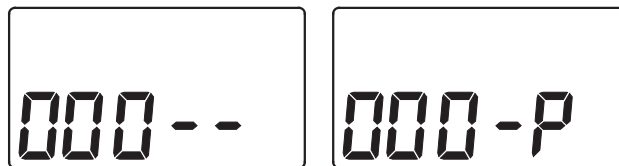

FIG. 33
1. Press and hold the SELECT button until one of the screens in Figure 33 is displayed. Once in this display,